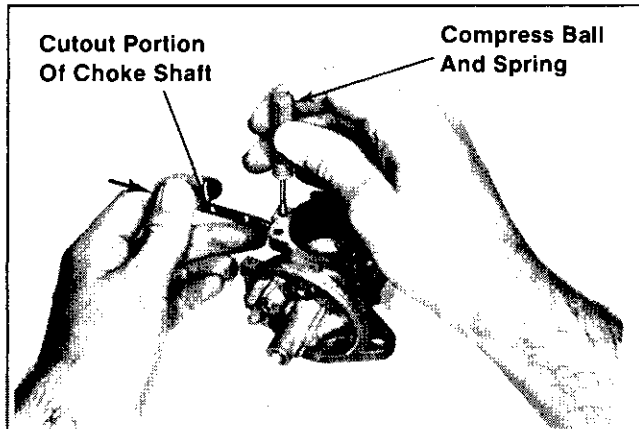

Figure 6-28. Installing Choke Lever/Shaft.
- Compress the detent ball and spring. Insert the choke lever/shaft assembly into carburetor body with the cutout portion of shaft facing the air cleaner mounting surface (refer to Figure 6-28). Make sure the choke lever is on the correct side of carburetor body.